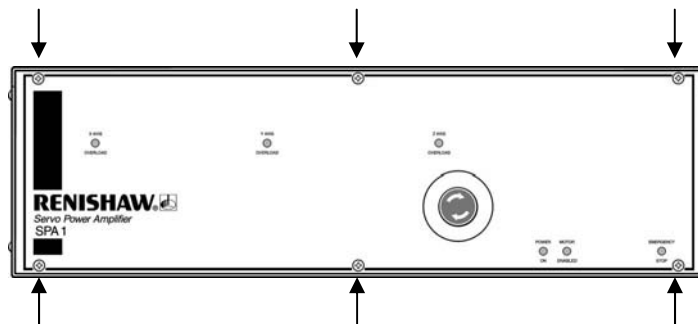

Figure 13 – Front of SPA unit showing screws
1. Remove the front panel of the SPA1 by releasing the 6 fixing screws that restrain the front panel as shown in figure 13.